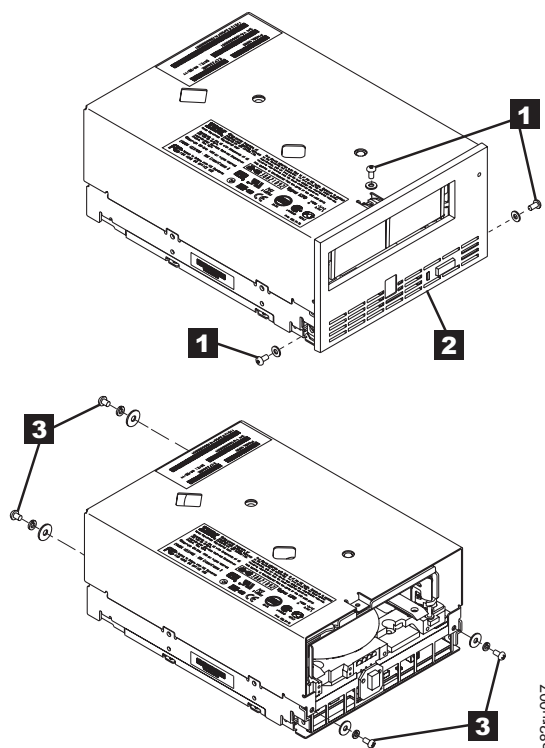

Figure A-1. Removing the bezel and the cover from the 4U internal drive
- a. Using a Phillips screwdriver, remove the three screws and washers (see **1** in Figure A-1) that secure the bezel **2** to the internal drive, then remove the bezel.